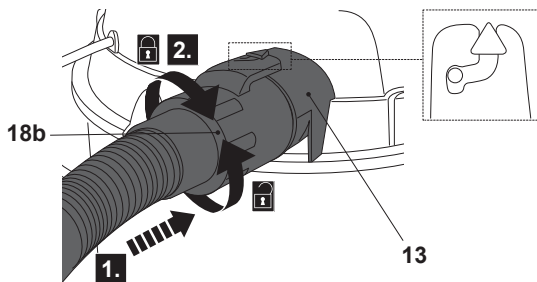

Fig. 16
- > Align the arrow on the hose connector (18b) with the tab on the outer opening of the air outlet (13) and slide the hose connector onto the air outlet (Fig. 16, step 1).
- > Rotate the hose connector (18b) clockwise and ensure the connection is properly secured (Fig. 16, step 2).